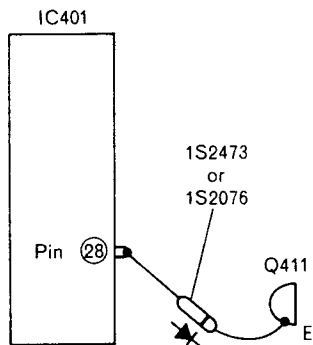

Fig. 2
- 3) After adjustment, remove a diode as shown in Fig. 2.